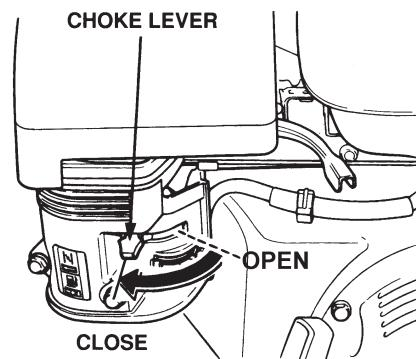

Figure 18. Engine Choke Lever
3. Place the **choke lever** (Figure 18) in the "CLOSED" position if starting a **cold** engine.